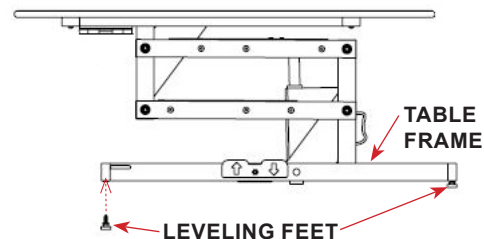

FIGURE 2.2 - Adjustable Leveling Feet
STEP 2: Thread the leveling screws (feet) into the bottom of the frame. Leave 1/2" of screw threading exposed. See FIGURE 2.2